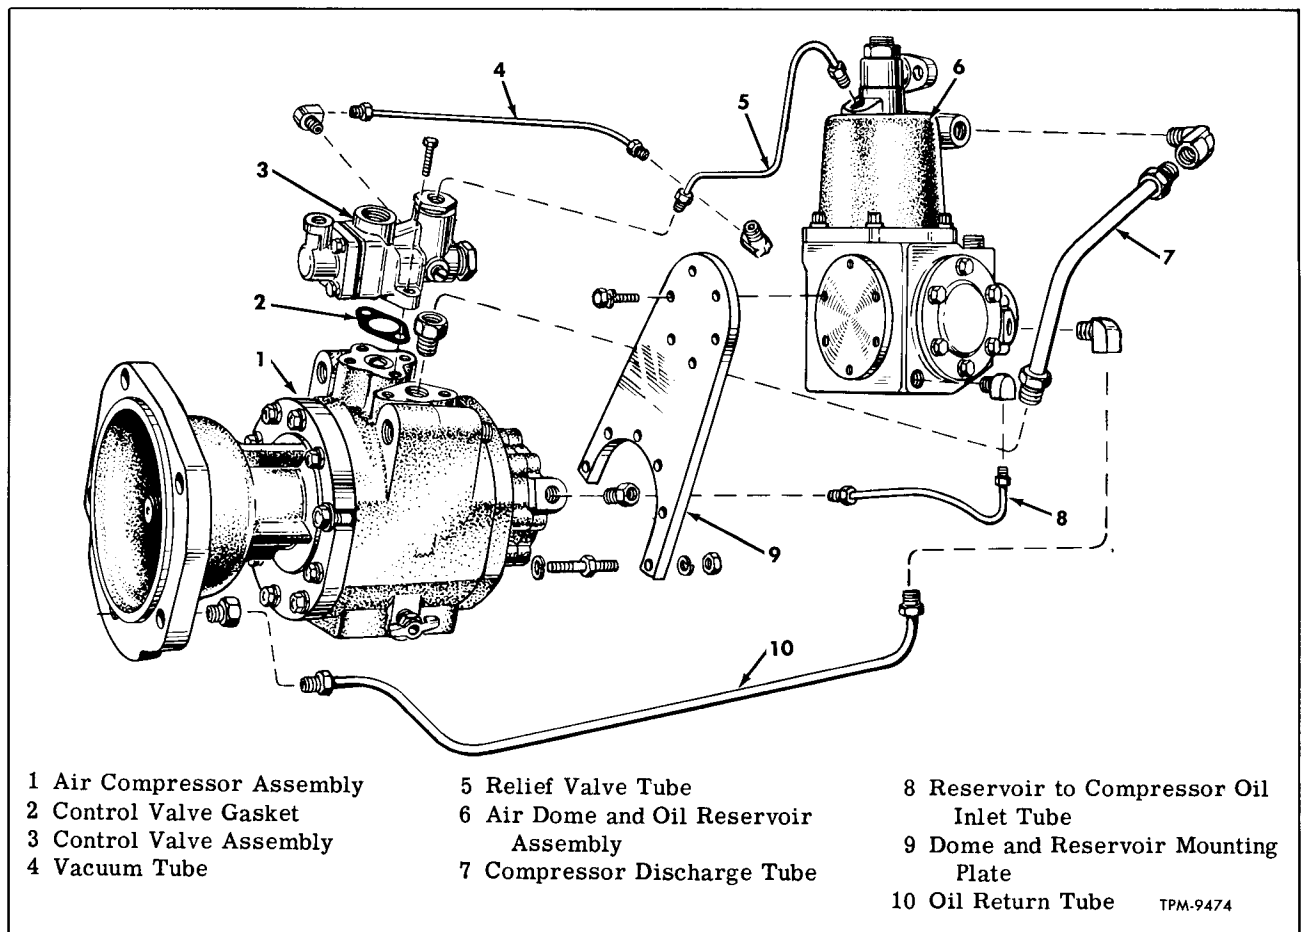
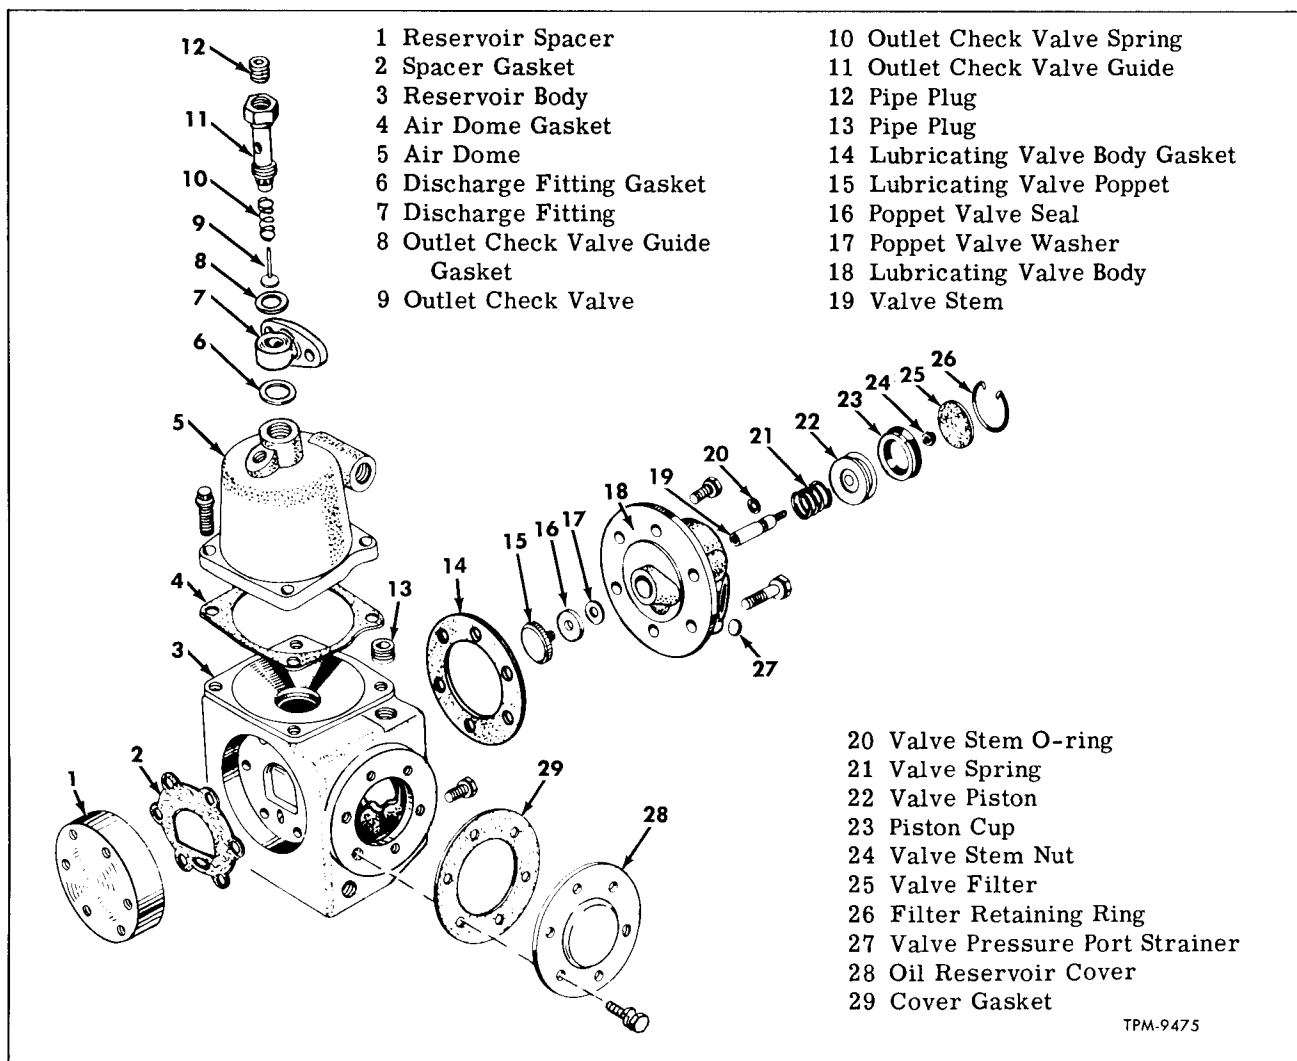

Figure 4—Air Compressor, Dome and Reservoir, Control Valve, and Interconnecting Tubes
Figure 6—Air Dome, Reservoir, and Lubricating Valve Components
The compressor and control valve assembly, together with the air dome and reservoir assembly, can be removed and installed as a complete assembly. The air dome and reservoir assembly or the control valve assembly can be replaced without removing the compressor from the engine. Refer to figure 4 for exploded view of the compressor, control valve, and dome and reservoir assembly and their interconnecting components.
2. Disconnect air inlet hose (9) from top of control valve.
3. Disconnect vacuum tube (13) and relief valve tube (12) from control valve.
4. Disconnect tank to control valve air line (11) from control valve bellows cap.
5. Remove two cap screws and lock washers attaching control valve to compressor stator. Remove control valve assembly (3, fig. 4) and gasket (2, fig. 4).
1. Make sure stator intake check valve assembly (13, fig. 7) is in place in top of stator. Place gasket (2, fig. 4) on stator, then install control valve assembly (3, fig. 4) and secure with two cap screws and lock washers. Tighten cap screws firmly.
2. Connect tank to control valve air line (11) to control valve bellows cap.
3. Connect vacuum tube (13) and relief valve tube (12) to control valve ports.
4. Connect air inlet hose (9) to top of control valve.
2. Connect vacuum tube (13), relief valve tube (12), compressor discharge tube (14), oil inlet tube (7), and oil return tube (6). Tighten connector nuts firmly.
3. Connect flexible discharge tube (4) to discharge fitting at top of air dome, using two bolts, lock washers, and nuts.
4. Remove pipe plug (13, fig. 6) from upper rear corner of oil reservoir and pour a sufficient amount of oil (same as used in engine) into the reservoir to provide initial compressor lubrication.
8. If compressor is to be overhauled, remove interconnecting tubes (fig. 4), then remove dome and reservoir assembly and control valve assembly from compressor.
3. If control valve assembly and dome and reservoir assembly were removed from compressor, assemble these parts to compressor, referring to figure 4 for position of tubes and fittings.
5. Connect air inlet hose (9) to elbow and nipple on top of control valve.
6. Connect tank to control valve air line (11) to control valve bellows cap.
7. Connect elbow on flexible discharge tube (4) to discharge fitting at top of air dome, using two bolts, lock washers, and nuts.
8. Connect water lines (10) to compressor stator.
10. If oil reservoir was drained, remove pipe plug (13, fig. 6) and pour a sufficient amount of
(Key Numbers in Text Refer to Figure 6)